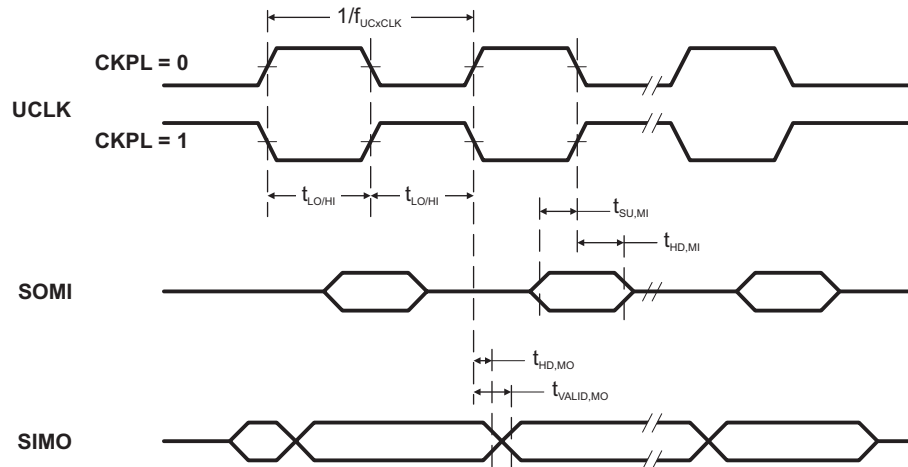
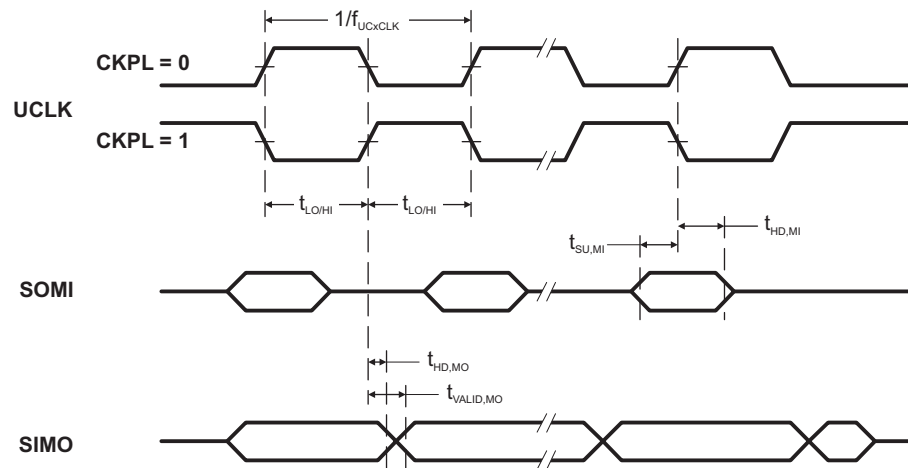

Figure 17. SPI Master Mode, CKPH = 0
Figure 18. SPI Master Mode, CKPH = 1
(see Note ⁽¹⁾, Figure 17 and Figure 18)
- (1) $f_{UCxCLK} = 1/2t_{LO/HI}$ with $t_{LO/HI} \geq \max(t_{VALID,MO}(USCI) + t_{SU,SI}(Slave), t_{SU,MI}(USCI) + t_{VALID,SO}(Slave))$. For the slave's parameters $t_{SU,SI}(Slave)$ and $t_{VALID,SO}(Slave)$ see the SPI parameters of the attached slave.
- (2) Specifies the time to drive the next valid data to the SIMO output after the output changing UCLK clock edge. See the timing diagrams in Figure 17 and Figure 18.
- (3) Specifies how long data on the SIMO output is valid after the output changing UCLK clock edge. Negative values indicate that the data on the SIMO output can become invalid before the output changing clock edge observed on UCLK. See the timing diagrams in Figure 17 and Figure 18.
(2) Specifies the time to drive the next valid data to the SOMI output after the output changing UCLK clock edge. See the timing diagrams in Figure 17 and Figure 18.
(3) Specifies how long data on the SOMI output is valid after the output changing UCLK clock edge. See the timing diagrams in Figure 17 and Figure 18.